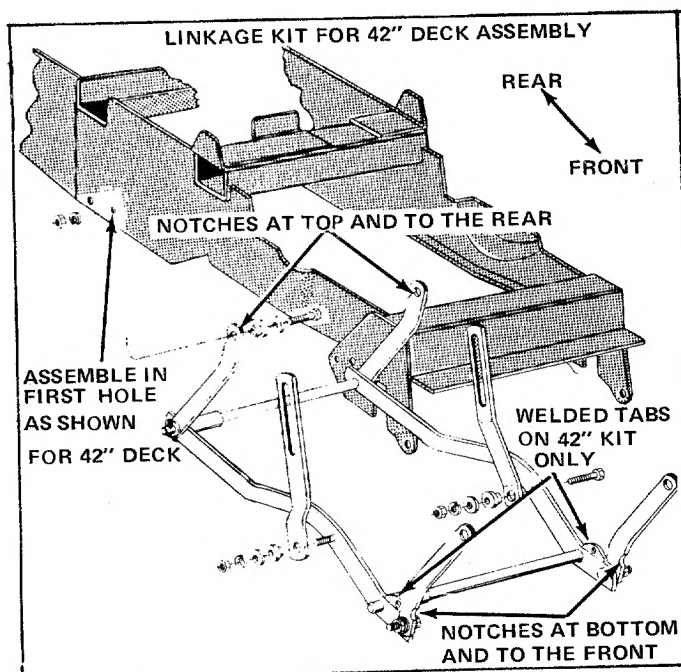

FIGURE 11
1. Determine which linkage kit you have on your tractor. See figures 11 and 12.
When removing tiller and reinstalling mower deck, be sure front cross shaft is reassembled as shown in figures 11 and 12.